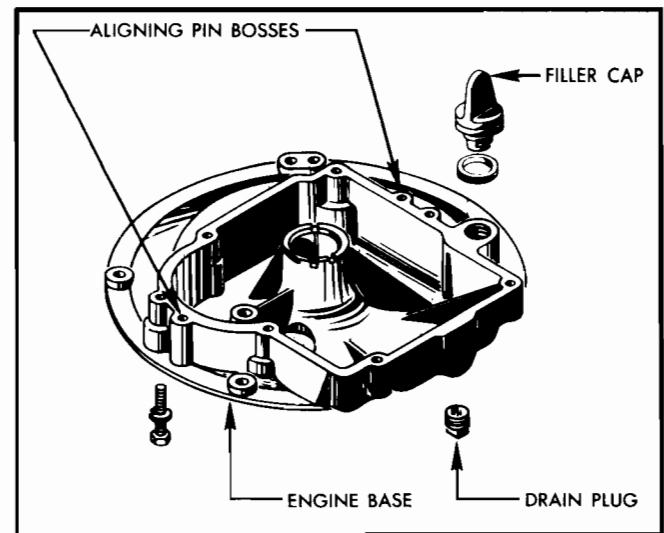

Figure No. 7
2. The cam axle must line up with the boss on the base, and the locating pins on the block slip into the matching bosses. See Figure No. 7.